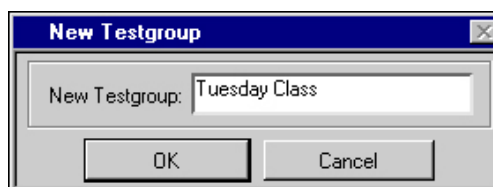

Figure 2-13. New Testgroup Dialog Box
- **New**—Allows you to create a new testgroup. Figure 2-13 shows the New Testgroup dialog box.